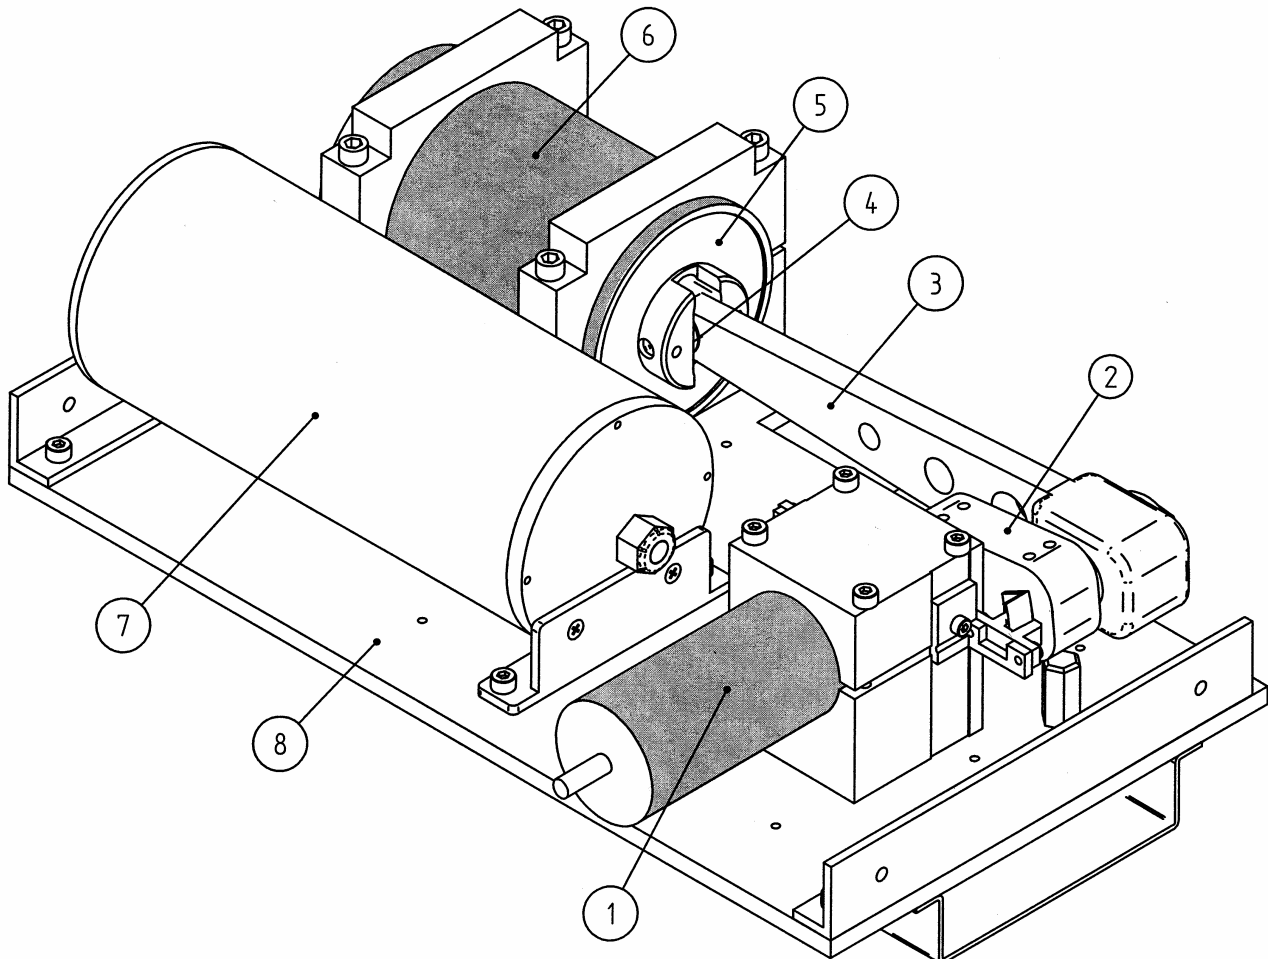

Figure 1 "Pressure Generator"
A geared motor (1), via a crank-link-gudgeon (2, 3, 4) causes the forward and reverse motion of a piston (5) into a stationary cylinder (6), see Figure 1 "Pressure Generator". This pressure generating mechanism is fastened to a sturdy aluminium plate (8).